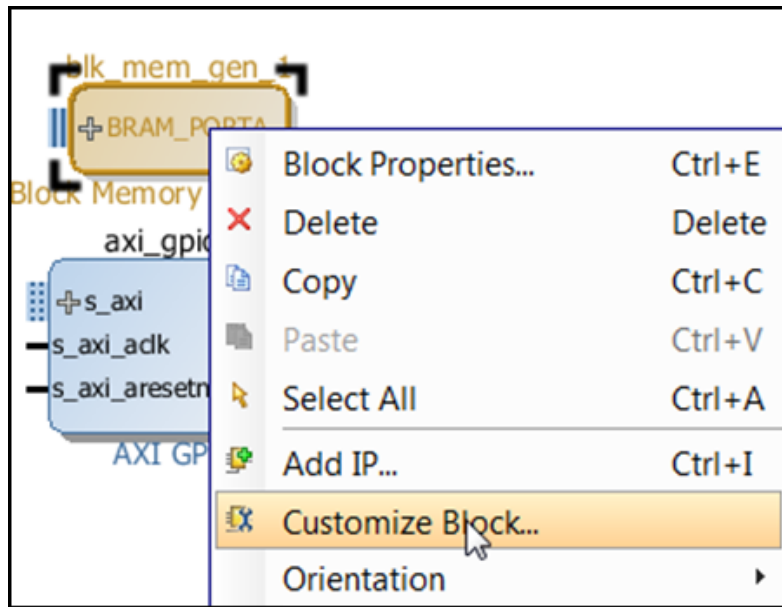

Figure 10: Customize Block Option
1. Double-click, or right-click the **Block Memory Generator** IP, and select **Customize Block** (Figure 10).